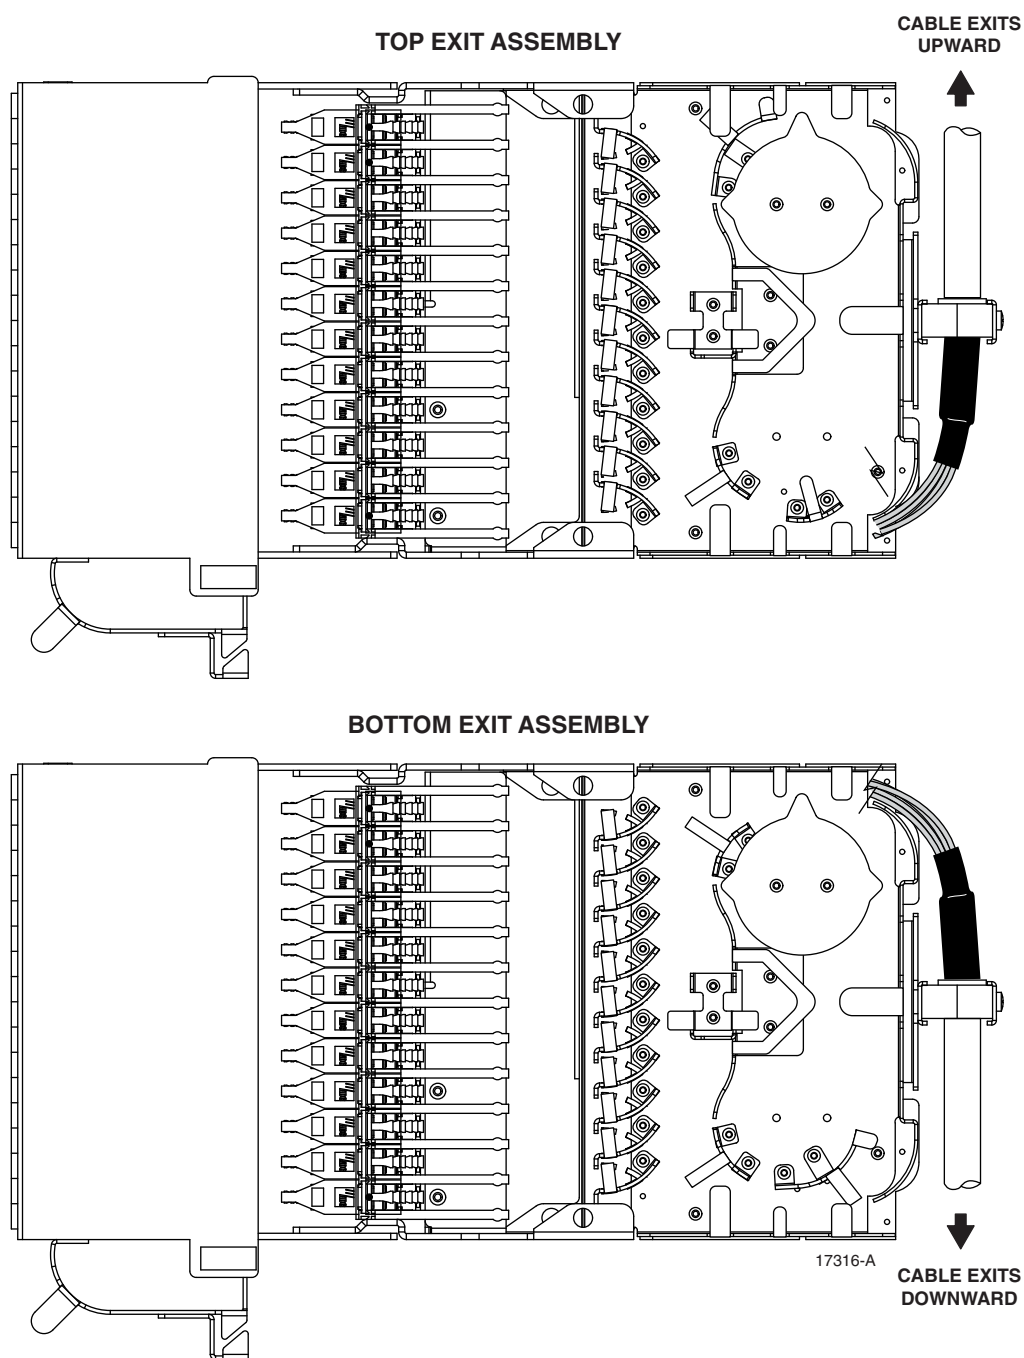

Figure 16. Cable Exit Orientation
3. Verify that the FTB has the correct cable exit orientation (top or bottom) for the cable installation, as shown in Figure 16.